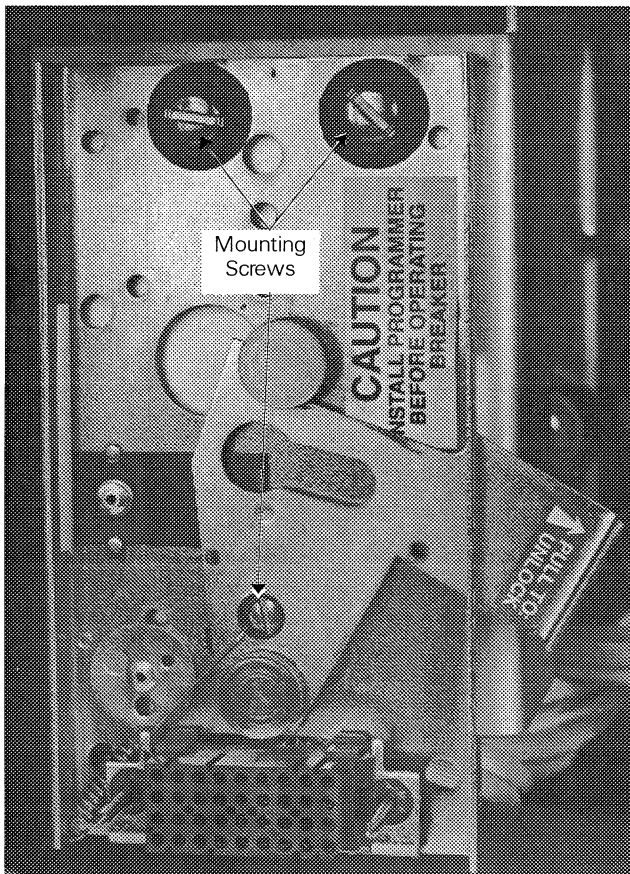

Figure 13. Trip unit mounting plate attached to the support bracket.
1. Attach the trip unit mounting plate to the support bracket, as shown in Figure 13.